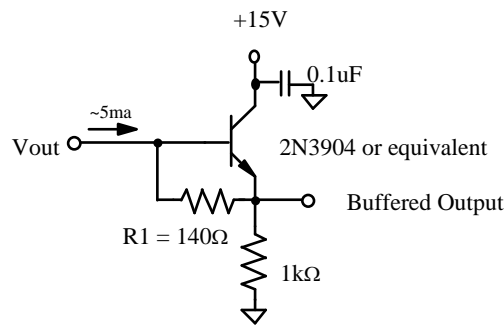

Figure 2: Output Structure Load Diagram
Charge presented to the floating diffusion (FD) is converted into a voltage and current amplified in order to drive off-chip loads. The resulting voltage change seen at the output is linearly related to the amount of charge placed on FD. Once the signal has been sampled by the system electronics, the reset gate ( $\phi_R$ ) is clocked to remove the signal and FD is reset to the potential applied by VRD. More signal at the floating diffusion reduces the voltage seen at the output pin. In order to activate the output structure, an off-chip load must be added to the Vout pin of the device. See Figure 2.